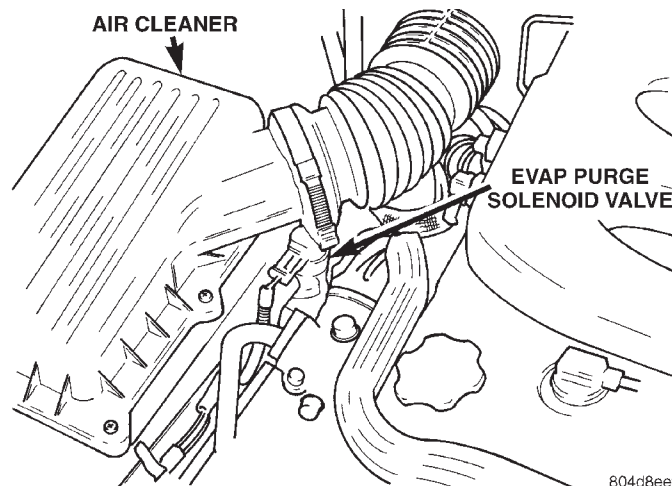

Fig. 73 Duty Cycle EVAP Purge Solenoid
(1) Remove air cleaner tube.
(2) Disconnect electrical connector from EVAP solenoid (Fig. 73).
(3) Disconnect vacuum harness from solenoid.
(4) Lift solenoid up off of bracket.